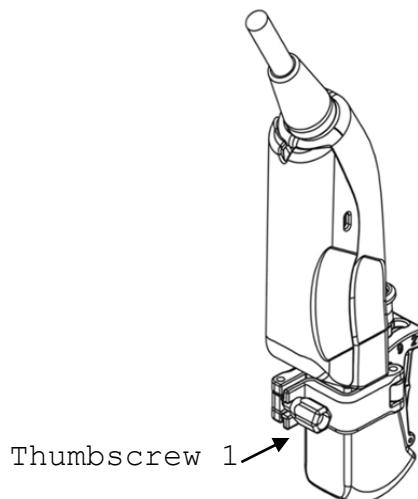

Fig. 12 Fitting the needle guide bracket
- 2) Fit the recess of the bracket to the thumbscrew 1 and tighten the thumbscrew 1. (See Fig. 12) At this time, be sure to attach the needle guide bracket so that the needle guide attachment area is positioned in the same direction as that of the needle guide bracket mount part side.